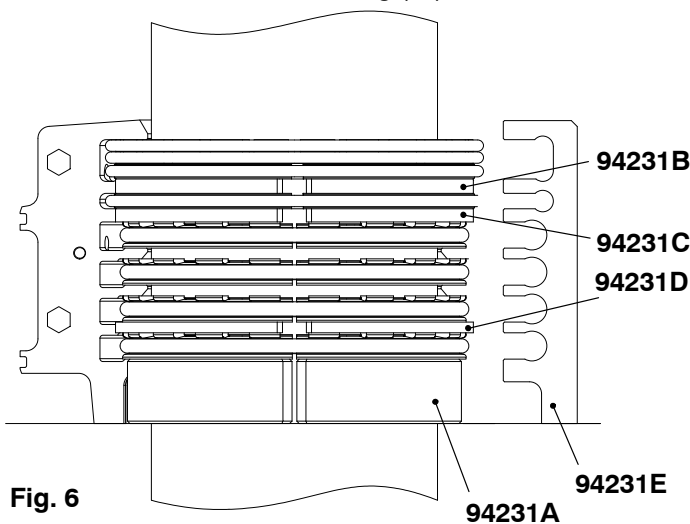

Fig. 6
- 25) Put the template (94231E, Fig. 6) over the assembled rings. Make sure that all parts are in their correct positions.